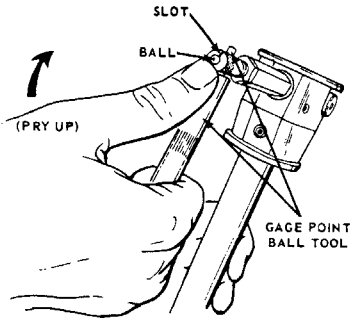

FIGURE 7
1. See Figure 7. Hold thumb over Ball and pry it out with the Gage Point Ball Tool.